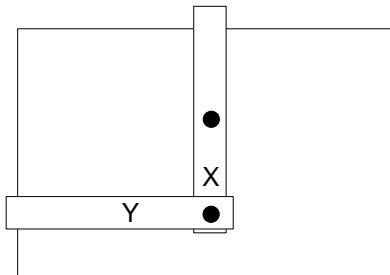

Figure 3: Second (failed) attempt to make Y control X
- ✂ Make and demonstrate a pegboard construction like in Figure 3. Does Y control X? Why or why not?
In order for Y to control X, it needs to be attached to it somehow. Another idea would be to put a fastener through X, Y and the base, as shown in Figure 3.